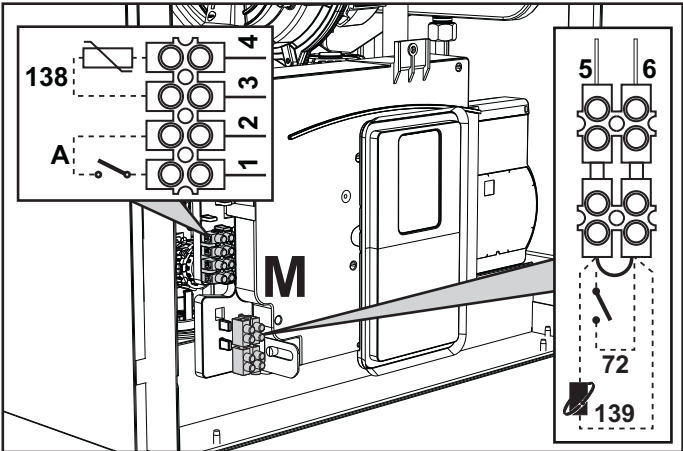
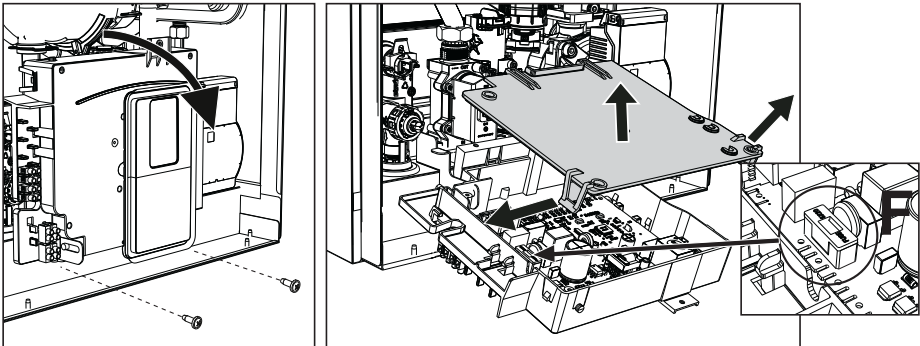

fig. 28
fig. 29
After removing the front panel ( \*\*\* 'Opening the front panel' on page 325 \*\*\* ) it is possible to access the terminal blocks (M) and the fuse (F) following the directions given below (fig. 28 and fig. 29). **The terminals indicated in fig. 28 must be with voltage-free contacts (not 230V).** The arrangement of the terminals for the various connections is also given in the wiring diagram in fig. 67.
## ON/OFF (A fig. 28) configuration